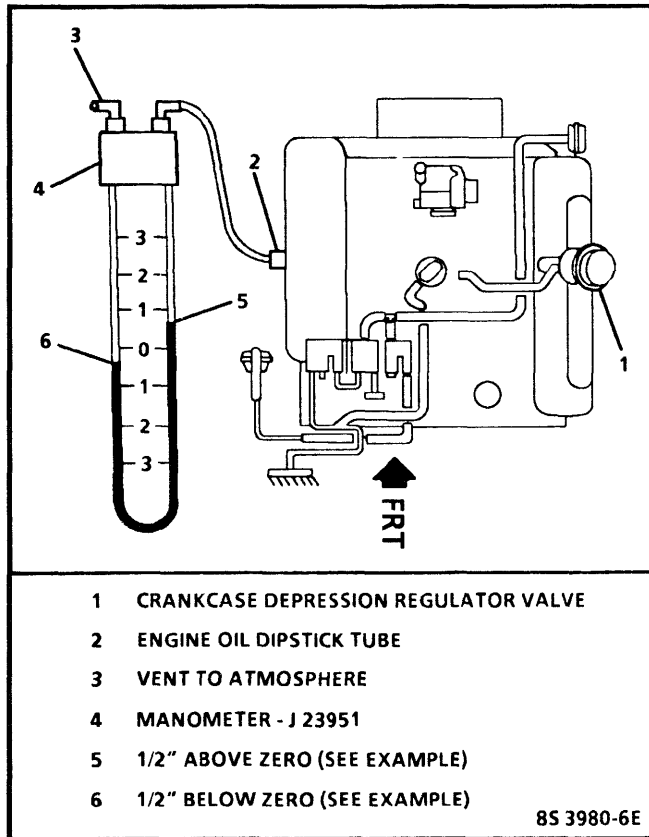

Figure 11-3 - CDR Valve Test
The CDR valve is checked with a water manometer. The U-tube manometer (Figure 11-3) indicates pressure or vacuum by the difference in the height of the two columns of fluid.
- 3 Start engine and observe manometer reading. It should read zero to one inch (0-1") of water (vacuum) at idle to approximately 3-4 inches of water (vacuum) at 2000 RPM. Add the amount that the manometer column travels up, to the amount that the column travels down to obtain total water pressure (vacuum). An example of a manometer reading is as follows. One-half inch above zero plus one-half inch below zero equals one inch vacuum reading ( $1/2" + 1/2" = 1"$ ) (Figure 11-3)